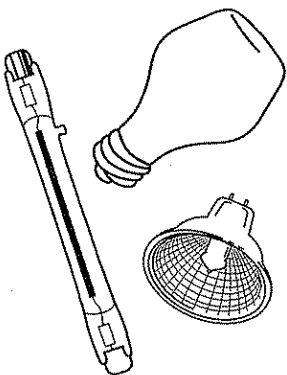

Figure 2: (clockwise from upper left) A-line, multifaceted reflector (MR) and quartz.
**Halogen incandescents** (see Figure 2) provide bright white light. Halogens are about 10% more efficient and last three to four times longer than standard incandescents. (Note: Don't use in wet locations.)
**Quartz halogen bulbs** (see Figure 2) produce a bright white light and intense heat. Lamps need a lens shield to protect the user from UV light and shattered glass in case the bulb overheats.
**PAR lamps or parabolic-aluminized reflectors** have a durable glass lens that helps focus the light. Halogen PAR spots and floods produce light comparable to a standard reflector while using one-third less energy. Halogen PAR infrared (IR) bulbs save even more.
**Low-voltage task lighting** gives you more light in work areas. It uses halogen PAR or MR bulbs (see Figures 2 and 3).